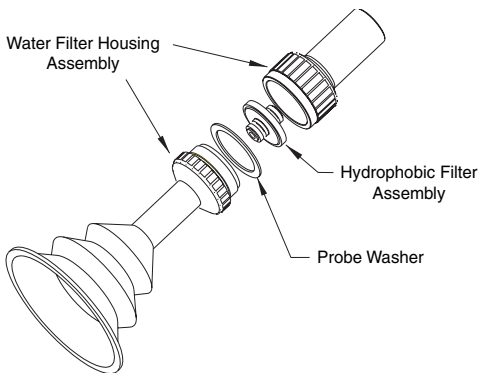

Fig. 5-13 Water Filter Assembly
- 1) Unscrew the filter assembly (Fig. 5-13).